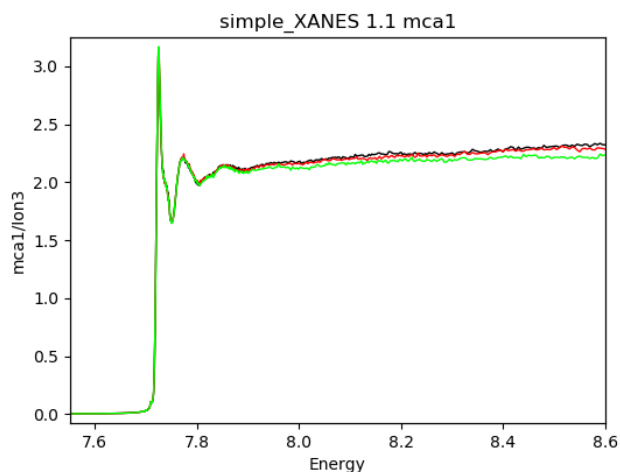

Figure 1-12: The mca1 channels of all three scans are overlaid here.
- 14) At this point we are ready to begin overlaying and comparing the three scans. Make sure that the "Auto ADD" box in panel C is checked, then click on each of the first three scans in panel A to add them to the plot. When you're done, the results should look like Figure 1-12.